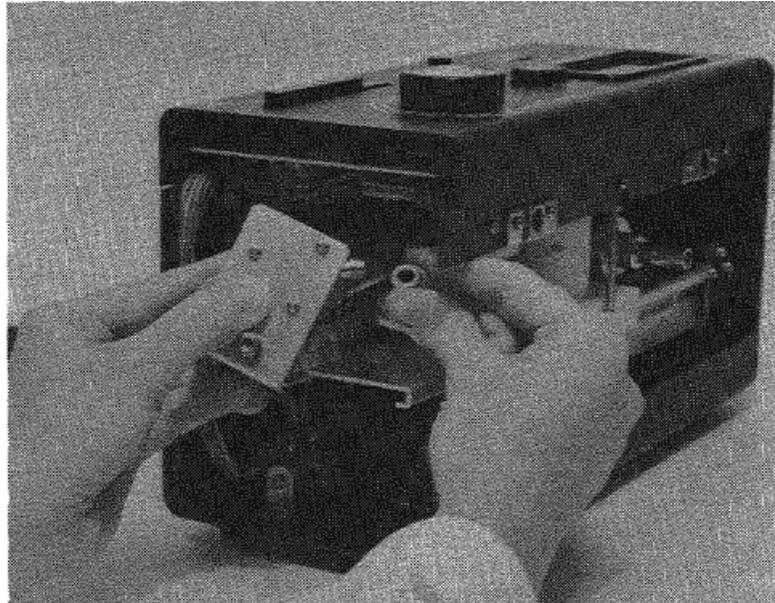

Figure 35. Removing the intake hose
- Step 3.** Disconnect the pump's intake hose so that the pump and bracket assembly can be removed from the instrument (Figure 35).